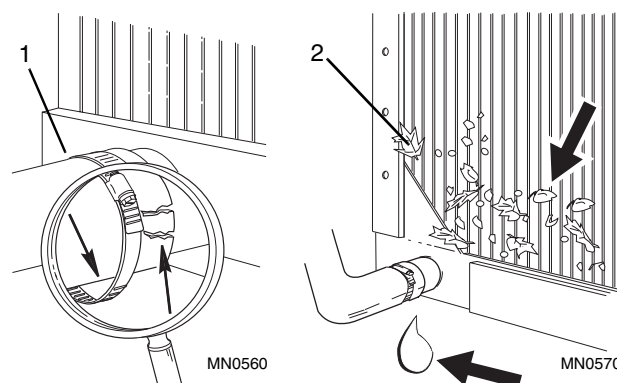

Figure 10-4 Check Radiator Cooling Fins and Hoses
If the coolant level in the radiator was low and the overflow bottle still contained coolant you will need to check the radiator hoses (Fig. 10-4, 1) for loose clamps, cracking, or other signs of damage. Check the hose (Fig. 10-2, 2) between the radiator and the overflow bottle also for loose clamps, cracking, or other signs of damage. Replace any hose or clamp found to be damaged, so coolant can properly siphon to and from the overflow bottle.
4. Inspect the radiator cooling fins for damage and debris (Fig. 10-4, 2). Repair any damage and, if necessary, remove debris between the fins by using compressed air.